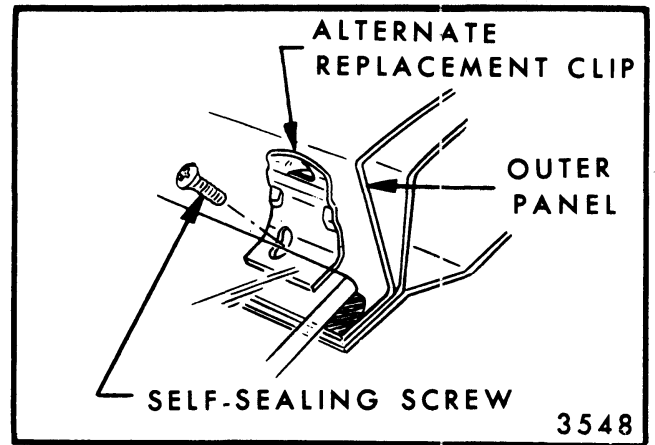

Fig. 11-6-Reveal Molding Clip Alternate Replacement
2. Insert a self-sealing screw through alternate replacement clip and into panel (Fig. 11-6).